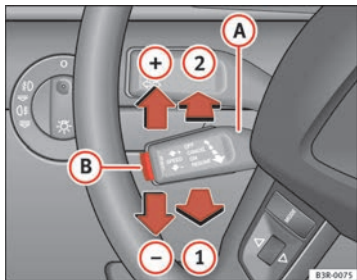

Fig. 151 Controls for the cruise control system
- Pull the lever **A** to position \Rightarrow fig. 151 **1** to activate the system.
- Move the lever **A** up towards \Rightarrow fig. 151 **+**.
- Move the lever **A** down towards \Rightarrow fig. 151 **-**.
- You can increase the set speed in steps of 2 km/h by briefly pressing the lever **A** up towards \Rightarrow fig. 151 **+**.
- You can decrease the set speed in steps of 2 km/h by briefly pressing the lever **A** down towards \Rightarrow fig. 151 **-**.
If no speed was stored when the system was temporarily disabled, a new speed can be set as follows: drive at the desired cruising speed and briefly press button ⇒ page 181, fig. 151 **B** (SET).
- Move lever **A** ⇒ page 181, fig. 151 to position **2** (click stop engaged).